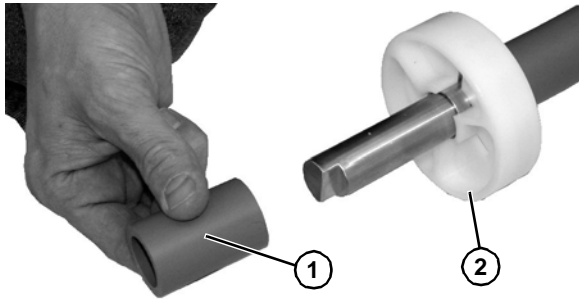

Figure 64
- Slide off the round puck spacer (**Figure 64, item 1**).
- Slide off puck and replace (**Figure 64, item 2**).